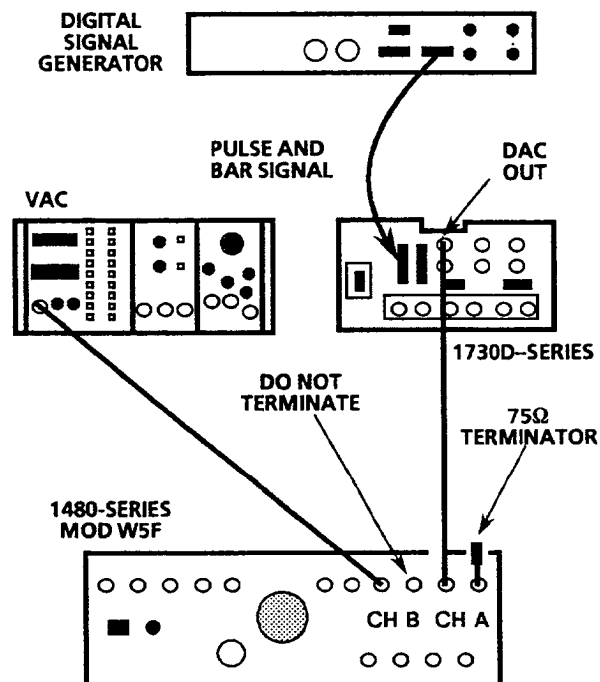

Figure 7-11: Equipment connections for Adjusting DAC Gain
- c. Connect a 75  $\Omega$  cable from the 1730D DAC OUT to the CH A input on the 1480-Series MOD W5F. Terminate the loop-through in 75  $\Omega$ . Connect the VAC to the CH B INPUT. Do not terminate the loop-through. See Figure 7-11.